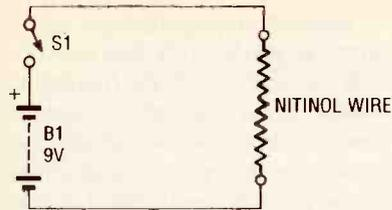

Fig 2. While this is the simplest way to activate Nitinol wire, it has some important limitations.
**Direct Electric Heating.** Nitinol wire can be activated using low voltage, such as a 9-volt transistor-radio battery. A simple circuit can be built using a battery, switch, and a small length of Nitinol (see Fig. 2).
as shown. Finish up by connecting the Nitinol wire to the circuit of Fig. 2.
Fig. 2. This linear regulator circuit has at its heart a low-power op-amp, which controls a PNP transistor that's connected as a high-side switch between the array and the load.
the power source, and require an operating current of typically less than 125 mA. Although a step-down switching regulator can be designed for this application, a linear circuit is more efficient. Such a circuit is illustrated in Fig. 2. The heart of that regulator is a low-power op-amp, which controls a PNP transistor that's connected as a high-side switch between the cell array and load. The circuit's input/output voltage differential just 0.3 volt, which is lower than most fixed linear-regulator chips.